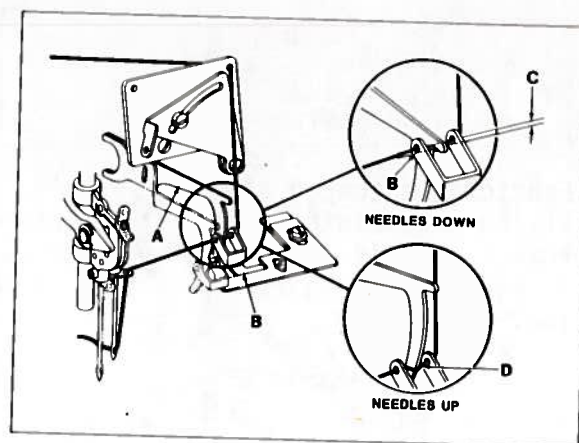

Fig. 29
With needles at lowest position, loosen screw securing needle thread cam pull-off (A, Fig. 29) and set the lower extended surface of its strike-off tip 1/32 inch (.8mm) below the centerline of overedge needle thread eyelet holes (B) on FIVE thread machines or 1/8 to 3/16 inch (3.2 to 4.8mm) on FOUR thread machines - Ref. point (C).